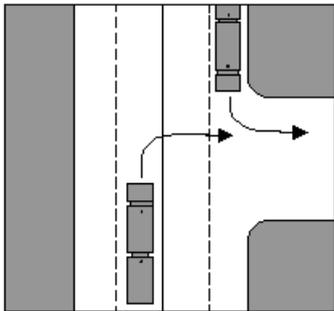
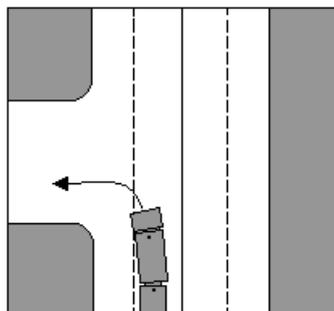

Fig 9
Fig 9a
35.2.1 left into a depot, you must turn from the left lane (Fig 9). Alternatively, if your vehicle displays a "DO NOT OVERTAKE TURNING VEHICLE" sign, you can turn from a marked lane next to the left lane (Fig 9a);
35.2.2 right into a depot, you must turn from the lane that is nearest to the centre of the road (Fig 9);